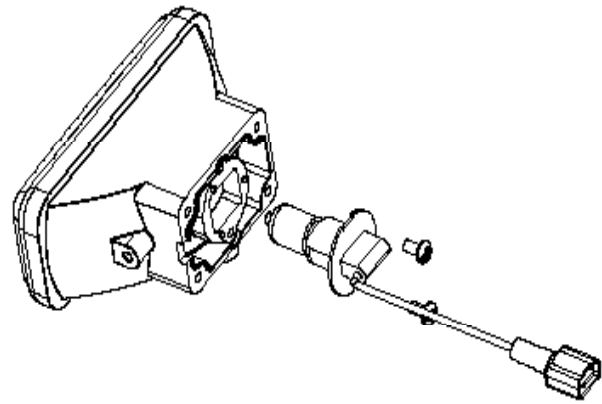

FIGURE 5
Step 3 Remove the two lamp mounting screws with a Phillips screwdriver (see Figure 5) and remove the lamp.